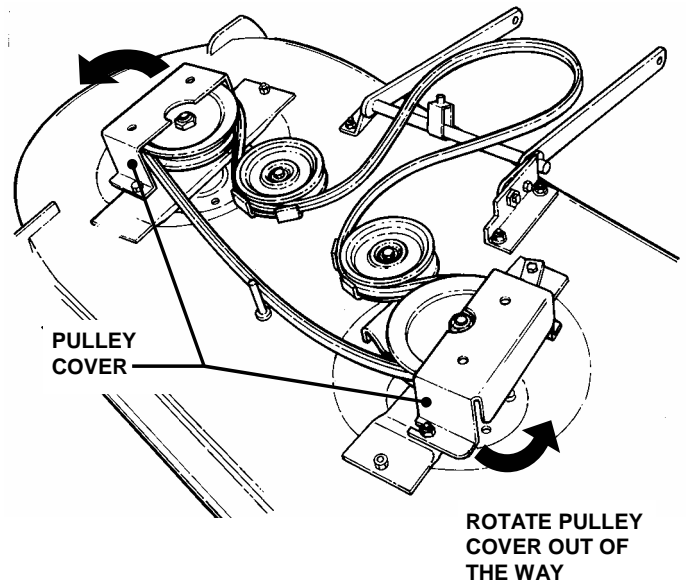

FIGURE 4.34
4. Remove deck idler tension spring. Loosen bolts that secure the end of the spindle pulley covers and rotate cover around out of the way. See Figure 4.33 & Figure 4.34.